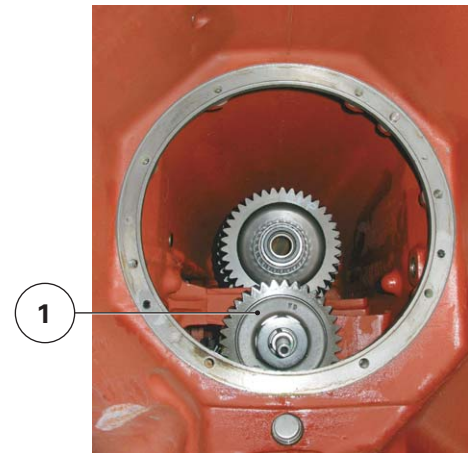

Fig. 1
The mechanical reverse shuttle transmits drive from the Speedshift to the drive pinion (1) of the gearbox (Fig. 1).